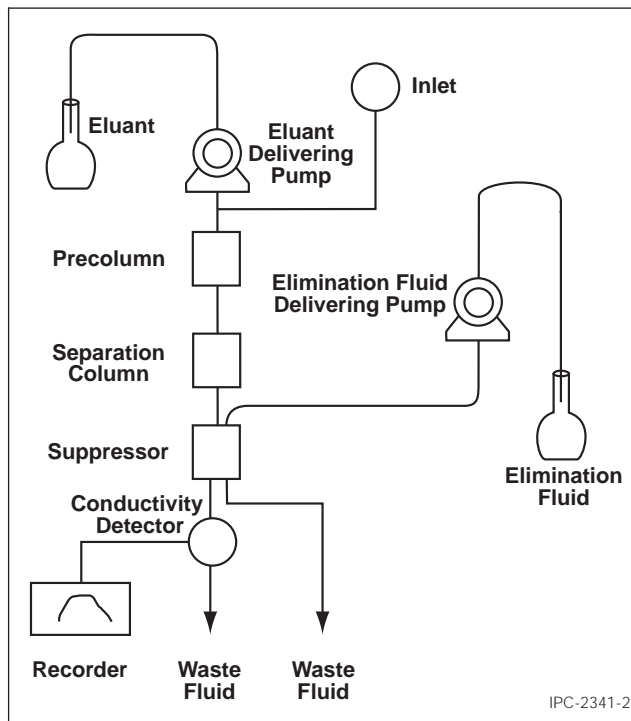

Figure 2 Composition of Ion Exchange Chromatograph
5.2 Chemical Analysis Inject the test fluid gathered from the flask in 5.1 into the inlet of an ion exchange chromatograph shown in Figure 2.